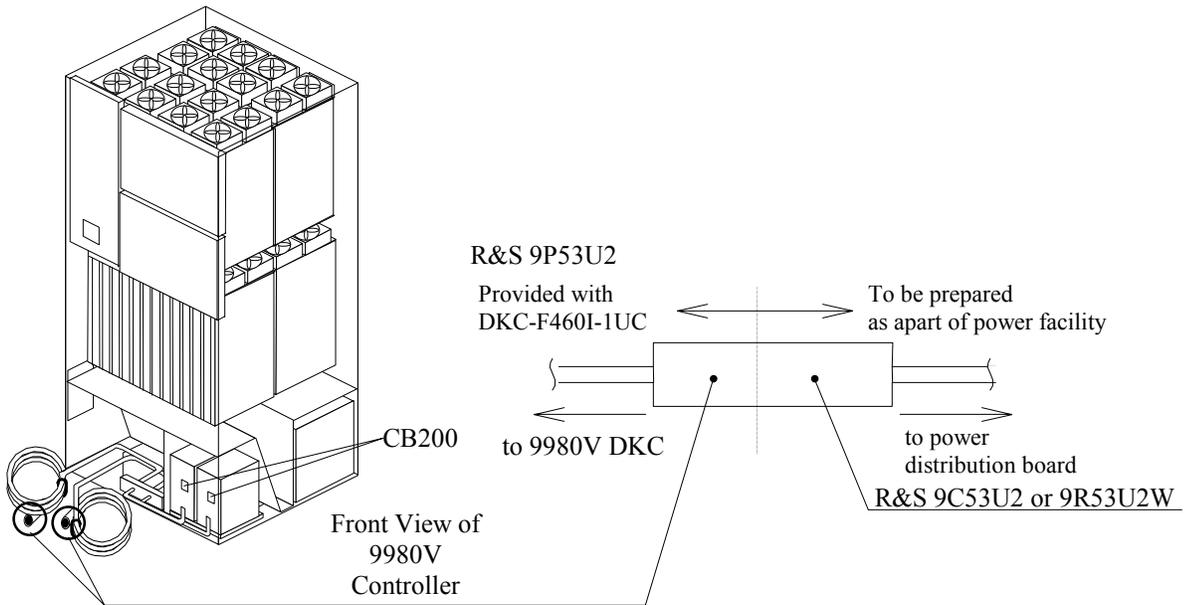

Figure 5.16 Power Plugs for Single-Phase 9980V Controller (USA)
- Figure 5.16 illustrates the power plugs for a single-phase 9980V controller (USA).